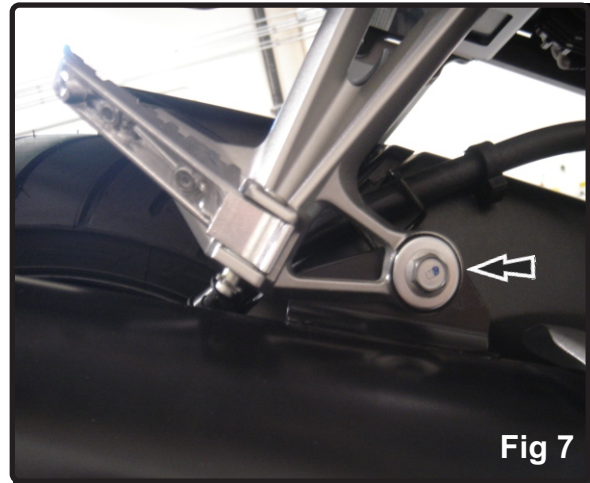

Fig 7
8. Remove the stock upper muffler mounting bolt and remove stock muffler (see Fig 7).